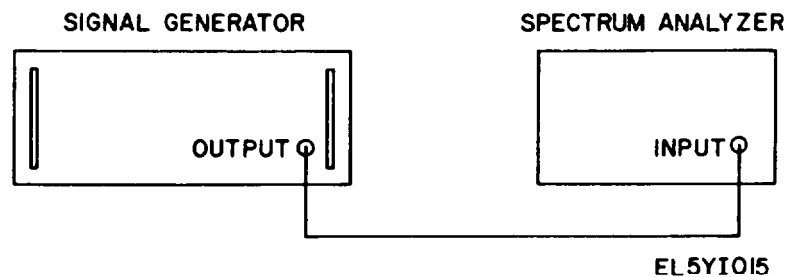

FIG 9-4. TEST SETUP, SPURIOUS OUTPUT AND PERCENT MODULATION
- a. Connect the equipment as shown in figure 9-4.
(2) 1-5 MHz	2 MHz
(3) 4-20 MHz	8 MHz
(4) 16-80 MHz	32 MHz